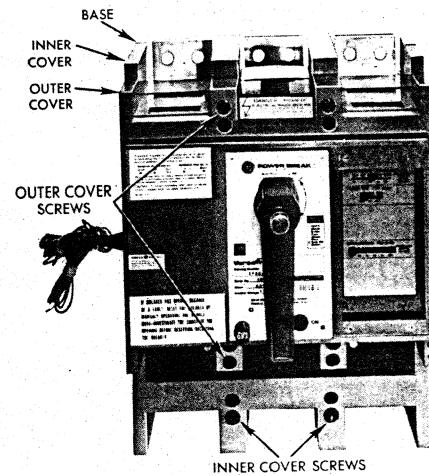

Fig. 7. 1200-1600A Frame Electrical Breaker
- a. 1200-1600A Frames only — Remove two inner cover mounting screws. (see Fig. 7).
- e. 1200A-1600A Frames only — Replace two (2) inner cover mounting screws, see Fig. 7. Tighten to 50-60 inch pounds torque.